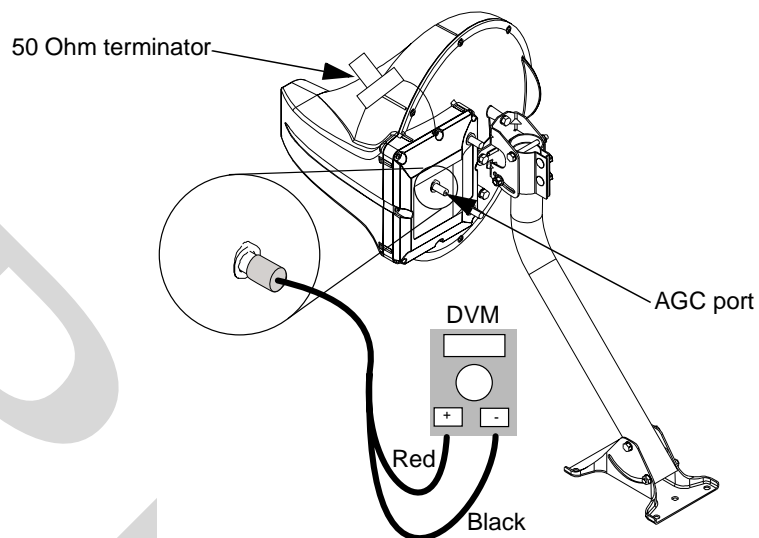

Figure 7. Elevation and Azimuth Adjustment with DVM
1. Disconnect the 50 Ohm terminator from the AGC port (see Figure 7).